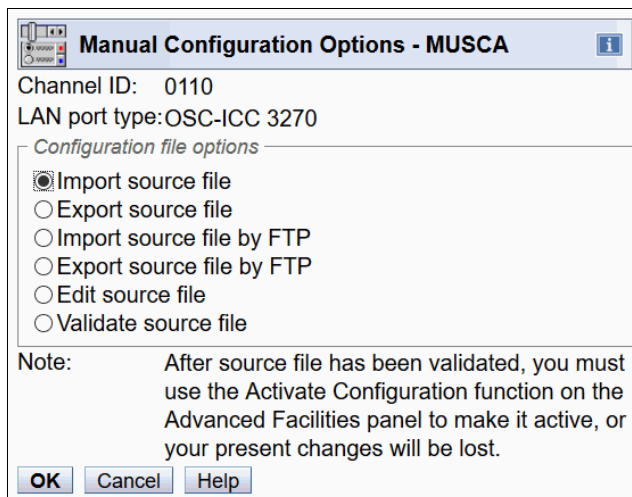

Figure 7-21 Importing a source file
5. The Manual Configuration Options window opens. Select **Import source file** and click **OK** (see Figure 7-21).